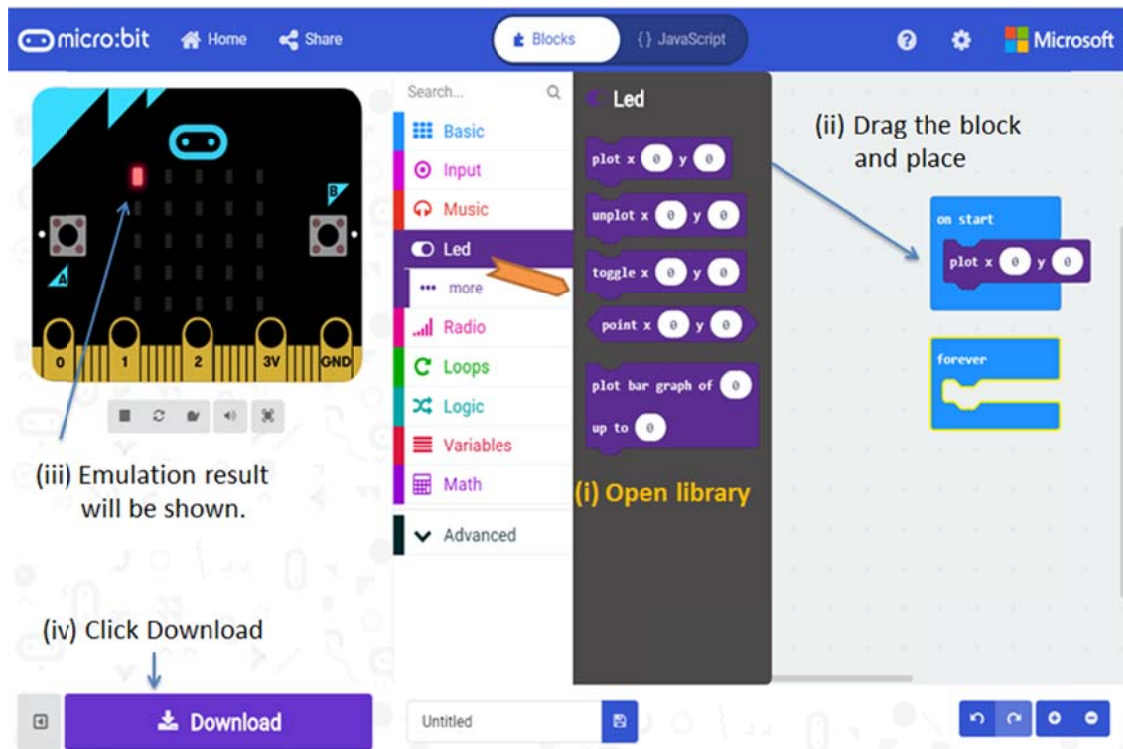

Fig. 8. Programming micro:bit using **MakeCode**
This command is in Led library  **Led** . You simply open the library and then select the block. An example is shown in Fig. 8.
5. After complete your program (Steps (i) and (ii) in Fig. 8), you will see the emulation of your program (Step (iii)). If it is ok, then you can click the download.